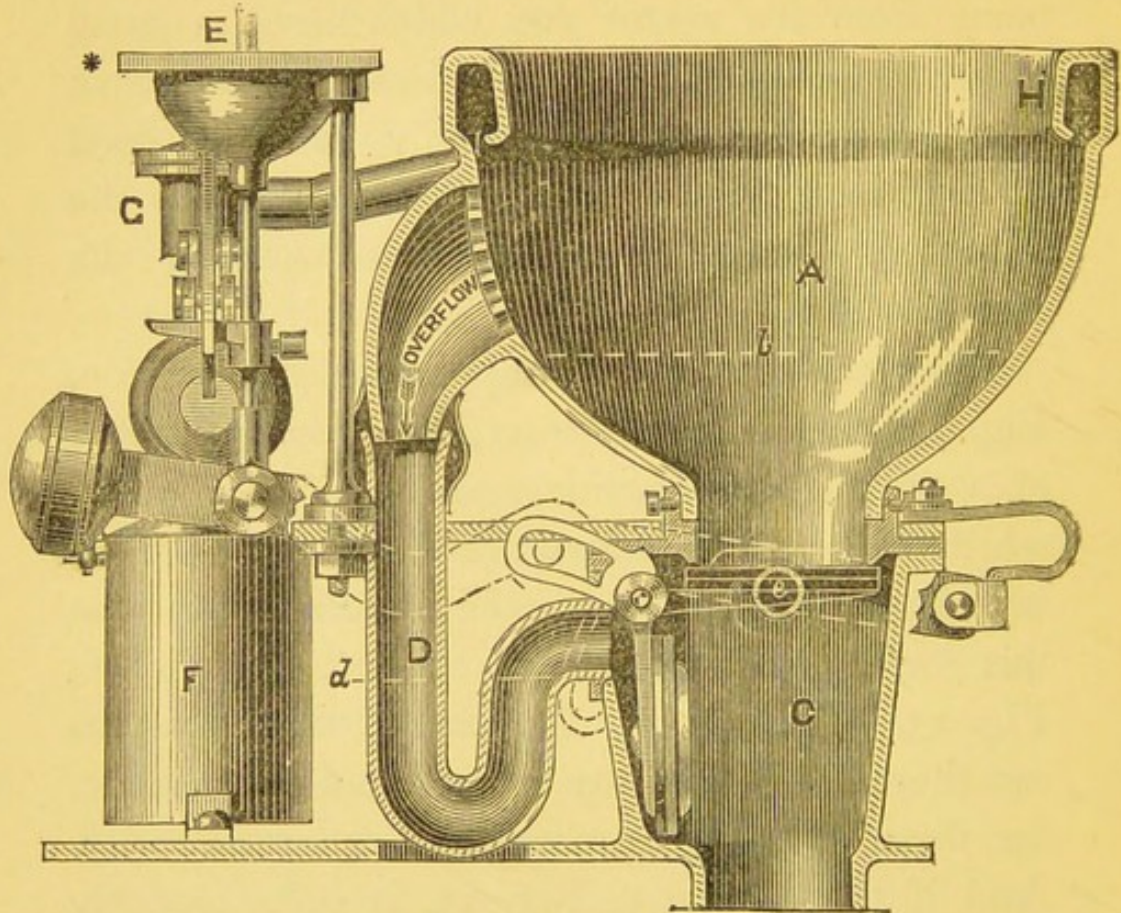
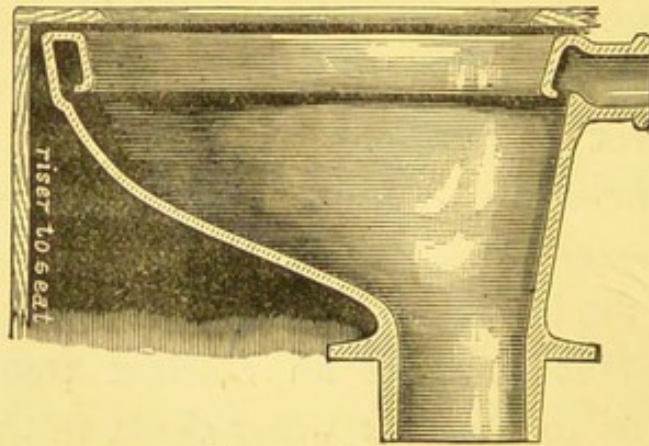

FIG. 23. SECTION.†
FIG. 25. SECTION.
The *valve* water-closet apparatus (see Section, Fig. 23) consists (apart from the working fittings) of a deep glazed earthenware basin, A, Fig. 23, which is kept about two-thirds full of water by means of a valve, B, at the bottom, and from this valve there is a short conducting-pipe,\* C, Fig. 23, into the trap. No part of this apparatus can therefore in any way become foul or offensive, for there is no place where soil can accumulate. And if the handle E, Fig. 23, is only properly pulled up, *i.e.*, as far as it will go, at each usage of the water-closet, for the valve to be drawn back as shown in Section, this basin can be kept as clean, and as free from unwholesome matter, as a toilet basin in a bed-room.
No doubt a *valve* water-closet wants proper usage, but so does a chronometer. But with careful usage it will work *many years* without needing anything done to it, and will certainly last as long as a *pan* water-closet. And when the basin-valve is fitted up with an india-rubber seating, as Fig. 23, if the water leaks out of the basin after it has been in use for some time, all that is necessary to remedy this is to change the india-rubber seating, which anybody can do, and this seating or india-rubber flange, when so wanted, can be sent through the post by writing to the maker of the water-closet.
When this closet is fixed in, or immediately adjoining, a bedroom, for invalid's use, there should be a ventilating-pipe, as *e*, Fig. 23,  $1\frac{1}{2}$ \* inch in diameter, taken out of the conducting-pipe, *c*, Fig. 23, and carried through the *external wall*, with a perforated end to prevent any strong current of air blowing into this compartment in frosty weather, and freezing the water in the trap. This pipe can be taken anywhere, so long as it is a few feet away from any window, as there is nothing injurious to come from it, but it must not, on any account, be connected with any other pipe—air-pipe or what not. (See Plate 1, Fig. 2, showing this air-pipe from the apparatus fixed complete.) But it is only necessary to ventilate such an apparatus when it is fixed immediately adjoining a bed-room or living-room.
*Patent "Artisan" \* Water-closet Flushing-rim Basin.*—This is a basin (see Fig. 25, Section), which the writer has specially designed for artisans' dwellings, and places where it is important to have a *simple* and *self-cleansing* water-closet, and where a *valve* water-closet, as Fig. 23, would be too expensive.